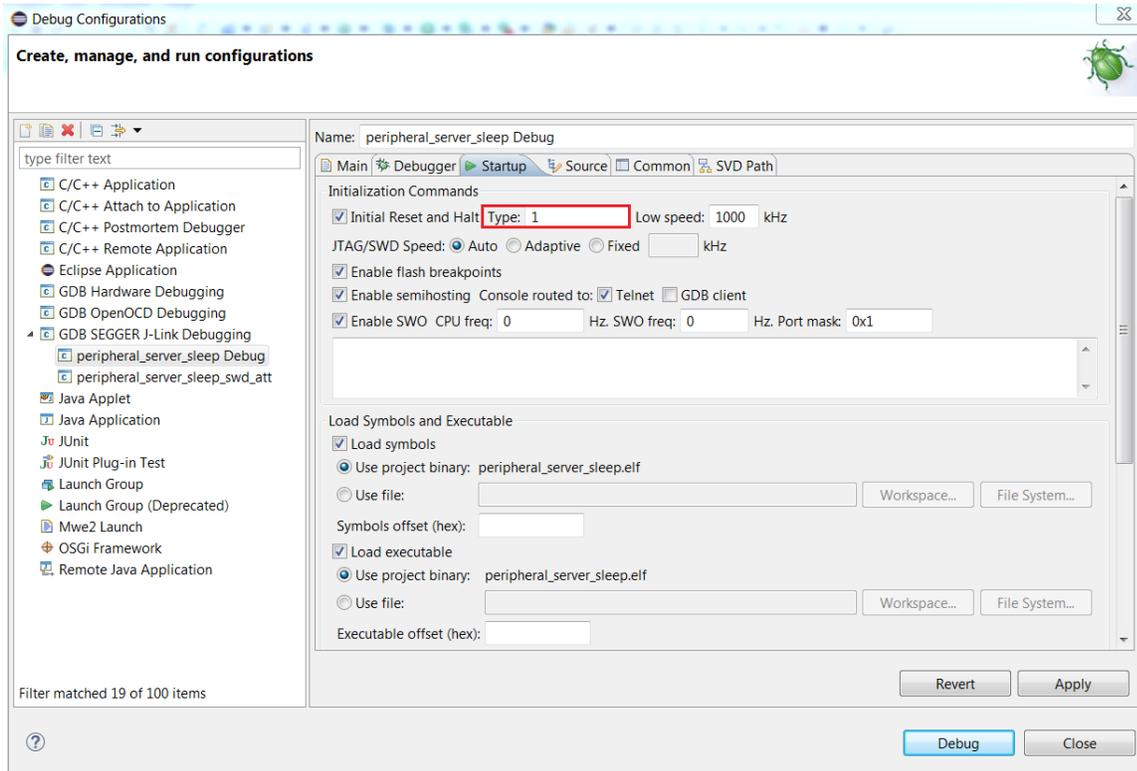

Figure 46. Setting Reset Type in the Debug Configuration Session
- ii. Adjust the displayed values for your configuration and click on **Apply** (see Figure 46, and Figure 47 on page 41).
NOTE: If you are having trouble downloading firmware to the device, in addition to using DIO12, you can also perform the software recovery by setting the **Reset Type** to 1 in the **Debug** session configuration (see Figure 46). The default **Reset Type** is 0, which only resets the Arm Cortex-M3 core while leaving the device/peripherals in a state where J-Link can't reconnect. Setting the **Reset Type** to 1 ensures that not only is the Arm Cortex-M3 core reset, but so are all the peripherals. If this does not work, see Section 7.4.1, "Downloading Firmware in Sleep Mode" on page 45.